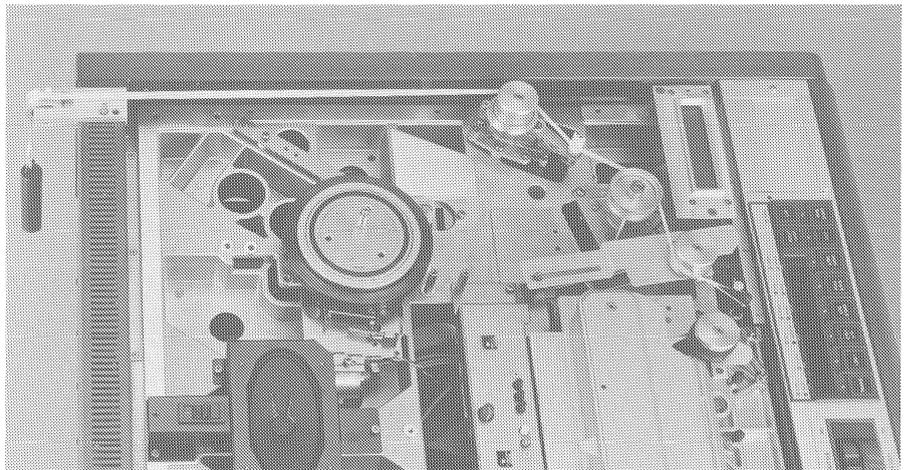

Fig. 21
- Mount the tape according to Fig. 21.